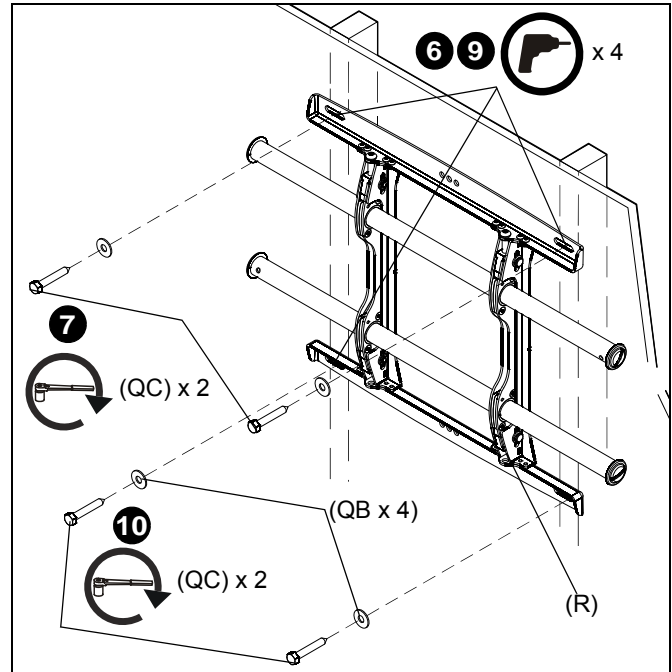

Figure 7
7. Use two 5/16 x 2-1/2" lag bolts (QC) and two 5/16" flat washers (QB) to attach top of mount to wall. (See Figure 7)
8. Mark the attachment points for the lower mounting slots, making sure the attachment points are located on the studs. (See Figure 7)
9. Drill 7/32" pilot holes at markings for lower mounting holes. (See Figure 7)
10. Use two 5/16 x 2-1/2" lag bolts (QC) and two 5/16" flat washers (QB) to attach the mount to the wall through the lower mounting holes. (See Figure 7)